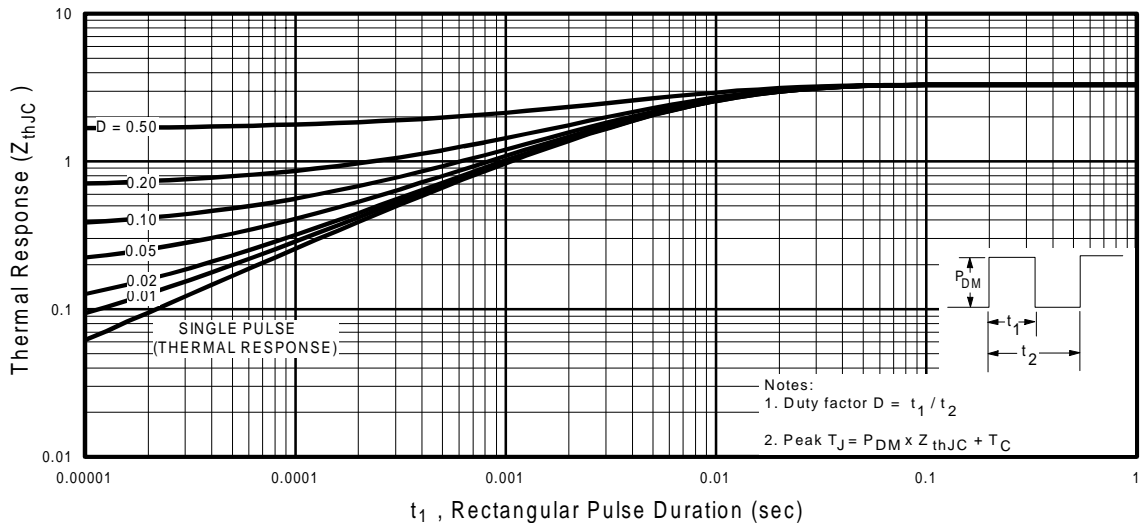

Fig 11. Maximum Effective Transient Thermal Impedance, Junction-to-Case
- ① Repetitive rating; pulse width limited by max. junction temperature. (See fig. 11)
② $V_{DD} = 25V$, starting $T_J = 25^\circ\text{C}$, $L = 1.0\text{mH}$